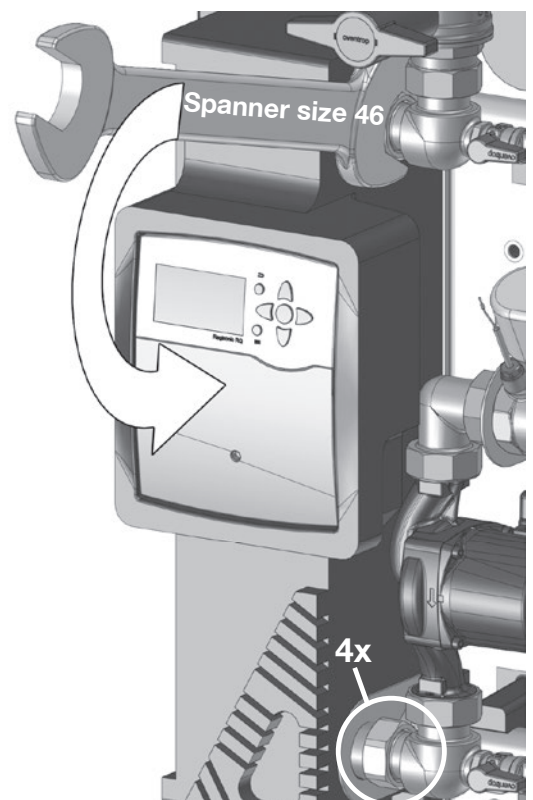

Fig. 5.6: Loosen the collar nuts of the heat exchanger
6. Loosen the four collar nuts of the heat exchanger with the help of a 46 mm spanner (Fig. 5.6).